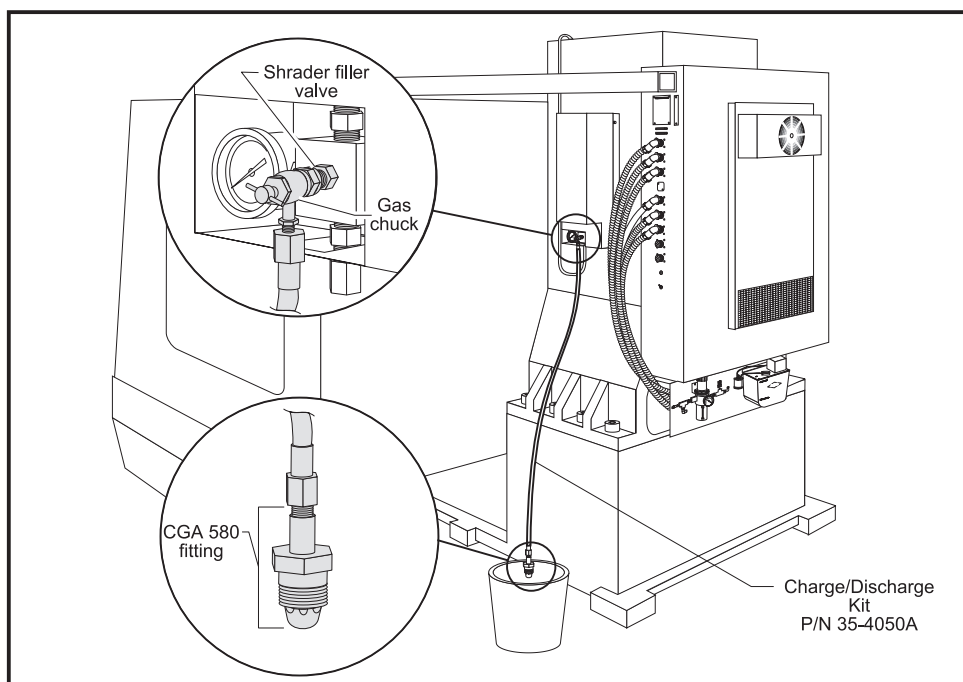

Figure 3-66. Hydraulic counterbalance charge/discharge kit (shown in place to discharge system).
4. Ensure T-handle of the gas chuck is turned completely counterclockwise. Attach charge/discharge kit by tightening gas chuck to the Schrader valve finger tight, then wrench lightly to tighten (see Figure 3-66).